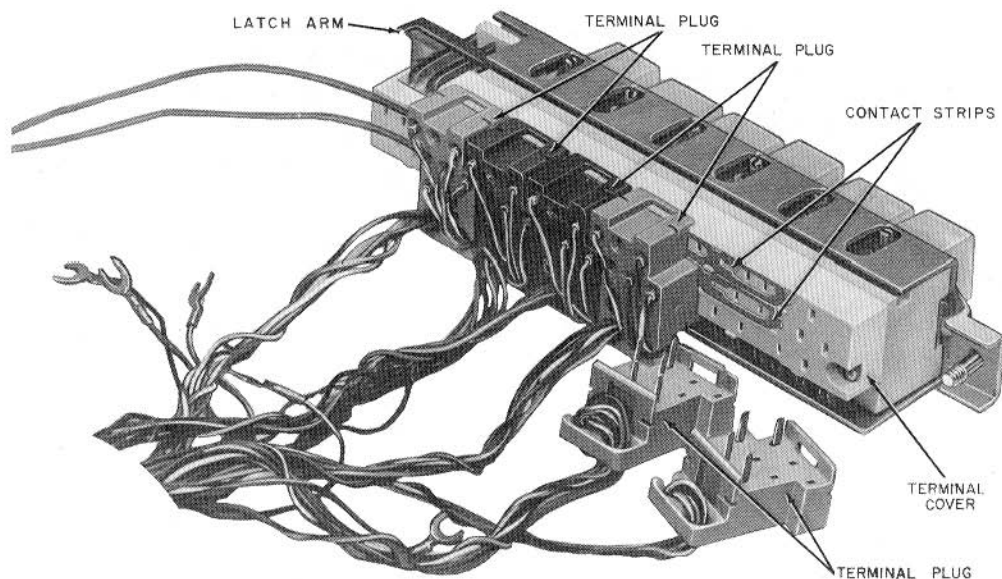

Fig. 7—Typical Connections to 635-Type Key
- (1) Loosen captive screws at each end of key module.
- (2) Lift key out of key frame disengaging key latch arm from pivot bar.
- (3) Turn key counterclockwise and unplug 508-type and 509A plugs (Fig. 7).
- (4) Remove contact strips from key module.
- (2) Connect 508-type and 509A plugs to proper receptacles (Fig. 7).